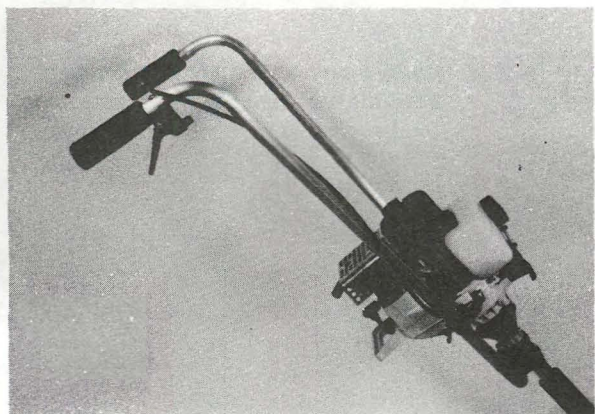

Fig. 9
1. Wrap the throttle wire once around the handlebars as shown in Fig. 9.